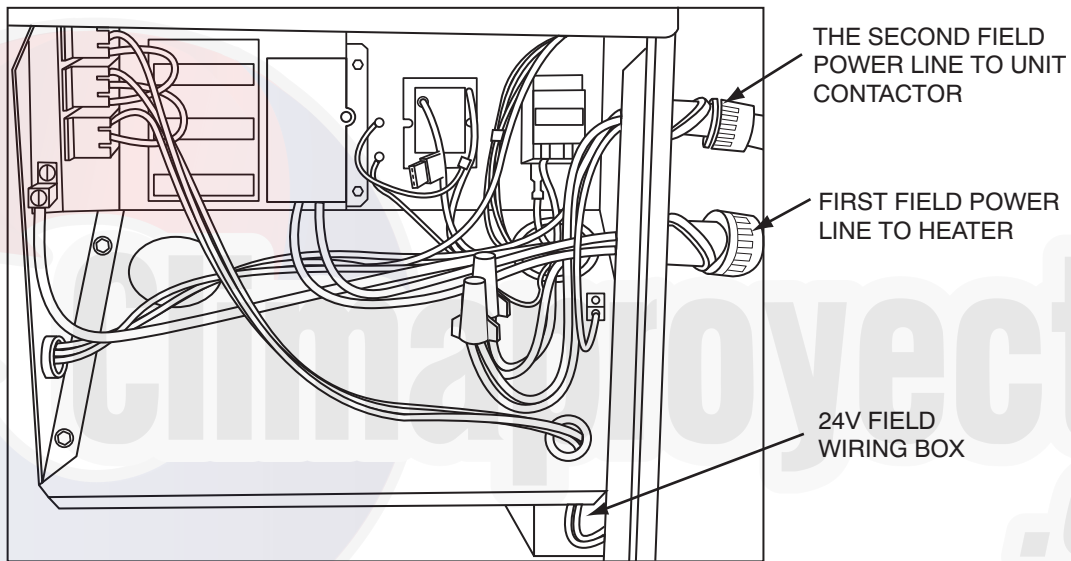

Fig. 12 – Dual Point Connections For Heater With Circuit Breaker
2. Connect low voltage wires as shown in unit schematic diagrams found on base unit installation instructions. These connections must be made in the 24v barrier section inside the unit panel (see Fig. 12 or Fig. 13).
3. Insert first field power line through the Electrical Panel bottom hole (see Fig. 12 or Fig. 13) and connect to electric heater as shown in their respective wiring diagram found on the heater accessory kit. Electrical heaters with factory installed circuit breakers must have their field lines connected to the breaker block lugs and electric heater without factory installed circuit breakers must have their field lines connected to the heater leads using wire nuts. Ground electrical equipment in the appropriate locations.
4. Insert second field power line through the Electrical Panel top hole (see Fig. 12 or Fig. 13) and connect to unit contactor black and yellow leads using wire nuts. Ground electrical equipment in the appropriate locations.